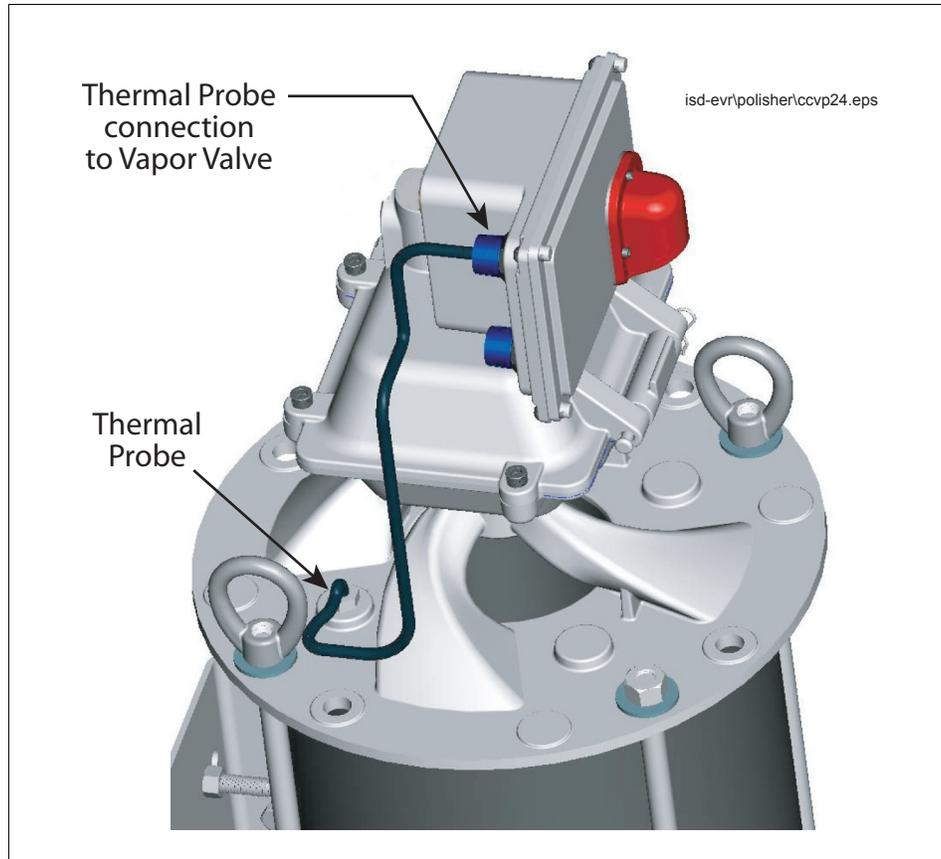

Figure 14. CCVP Thermal Probe
1. Remove the thermal probe cable connector from the back of the Vapor Valve assembly (see Figure 14).